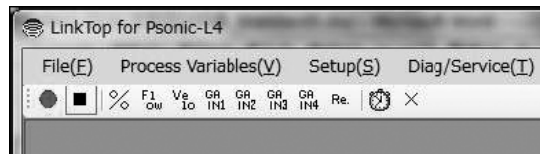

Fig. 3-20
- (1) Click "Chart and Recording" from the menu in the upper part of the screen, and select "Active", then a tool bar as shown in Fig. 3-20 will be displayed underneath the menu.